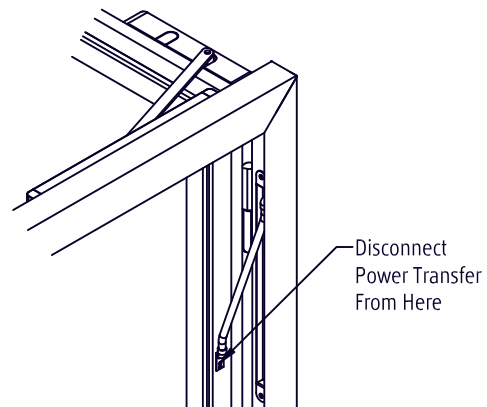

Figure 10 - Disconnect Electric Power Transfer (EPTL)
- If provided with a power transfer between the leaf and the jamb, disconnect (Figure 10).
- If your door has an electric power transfer (EPTL), reconnect it (Figure 10).